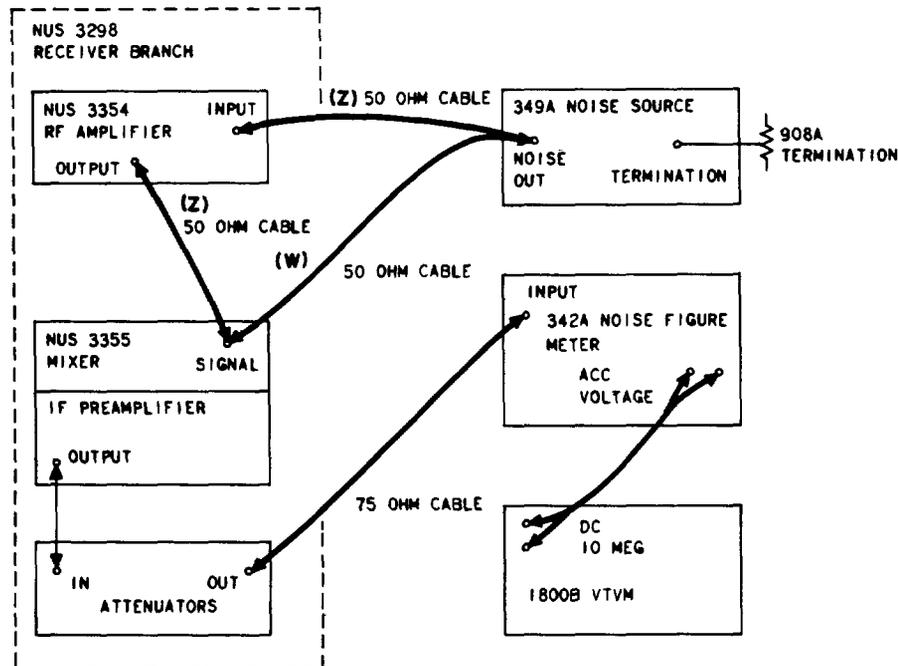

Fig. 1—RF Amplifier Gain and Receiver Noise Figure Measurements—Test Setup Diagram
1	Arrange the test equipment as shown in Figure 1. Use option (W)
10	Insert the RF amplifier in the test circuit as shown in Figure 1, option (Z).
- 13 Verify that the test equipment is arranged as shown in Figure 1, option (Z) and that the test equipment controls are adjusted to the positions used at the conclusion of the RF amplifier gain test.